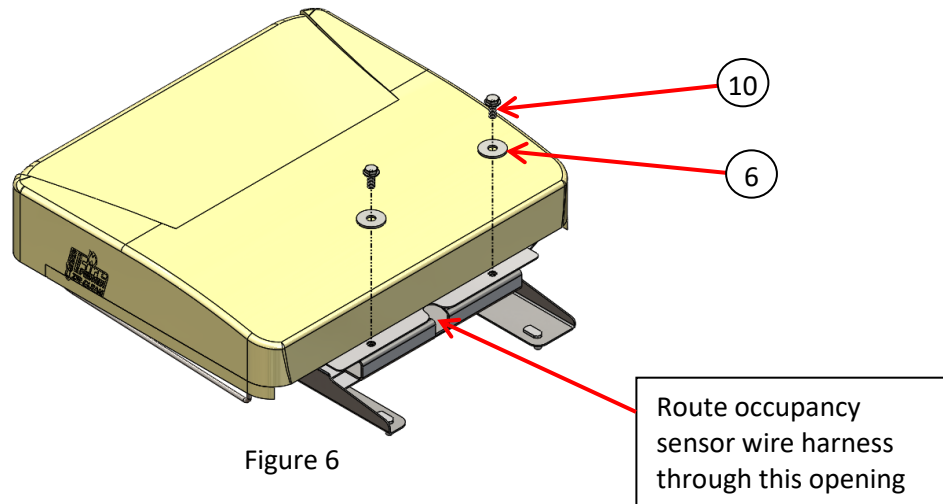

Figure 6
9. Flip the cushion down into the installed position and install the bolts and washers. See Figure 6. Crimp ends of J-clips closed.